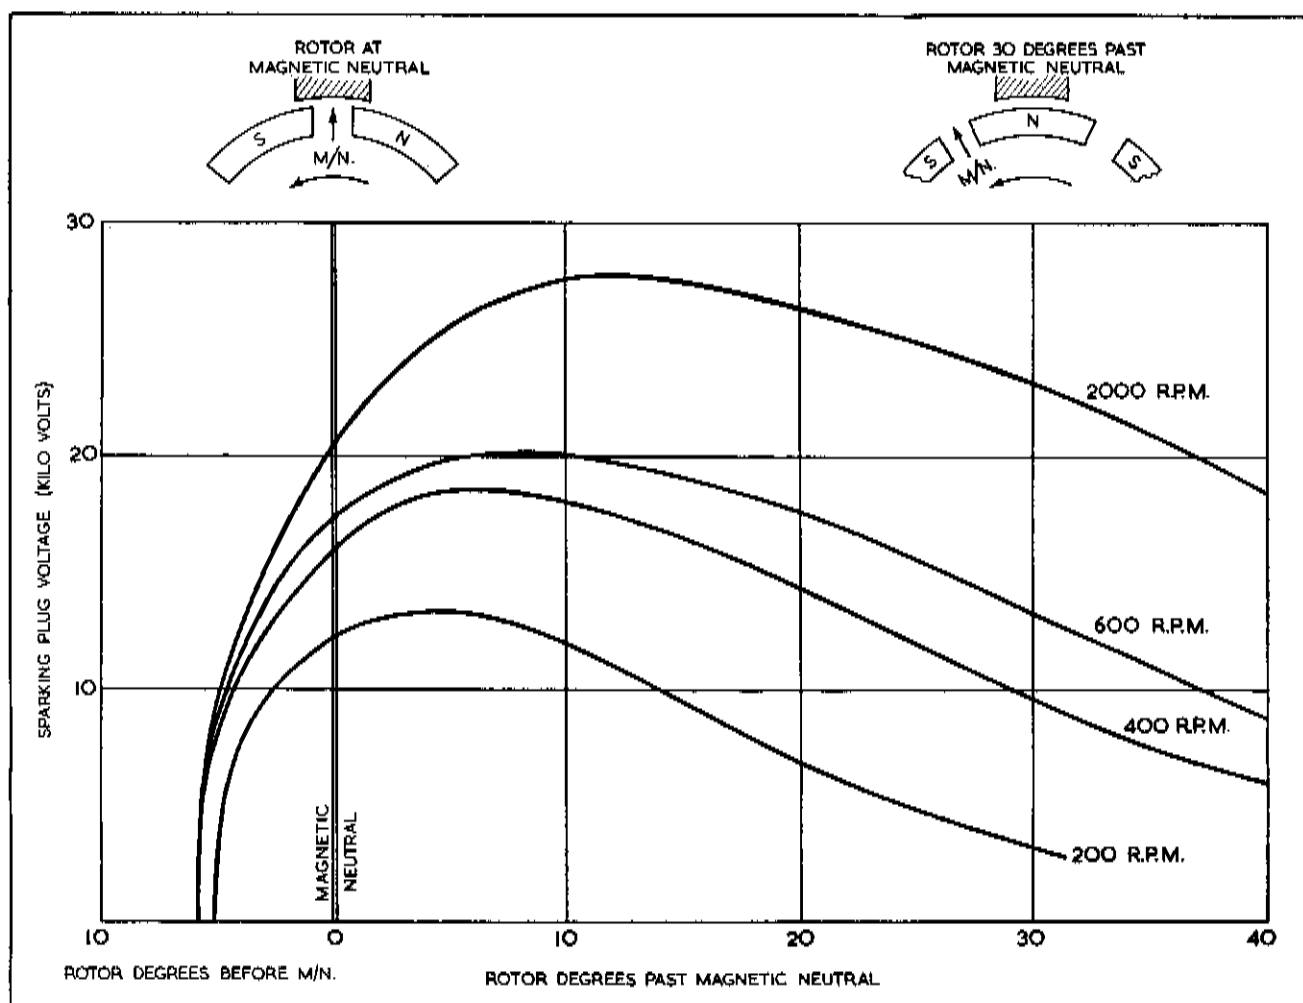

Fig. 9
- (vi) The characteristics reproduced in Fig. 9 show how the available plug voltage varies with different magnetic timing positions and for different speeds of rotation. The reference point is known as the Magnetic Neutral position, when the interpolar gaps of the rotor are situated on the centre-lines of the stator limbs.